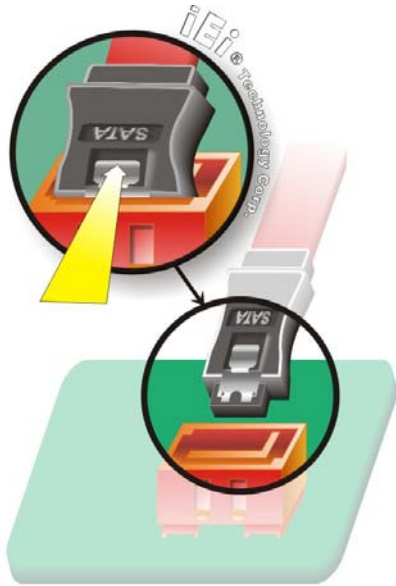

Figure 4-19: SATA Drive Cable Connection
- Step 2:** Insert the cable connector. Press the clip on the connector at the end of the SATA cable and insert the cable connector into the on-board SATA drive connector. See **Figure 4-19**.